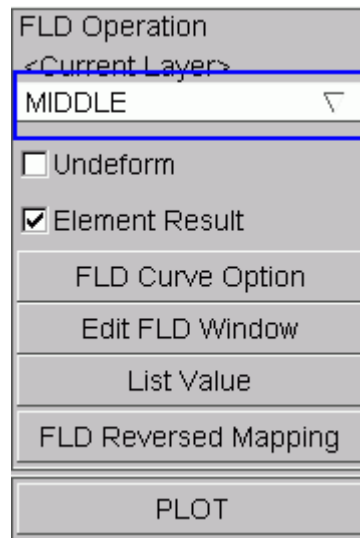

Figure 3.39: FLD dialog box
- 2) Select “Middle” in the pull-down menu of **Current Component**. See figure 3.39.